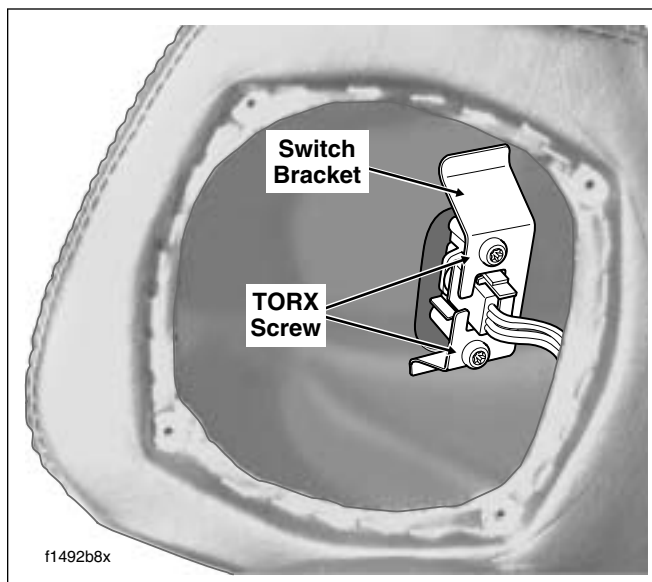

Figure 8-146. Remove Passenger Switch Assembly (Right Side Speaker Box Shown)
8. Remove two T25 TORX screws to release switch bracket from inside of speaker box. Remove bracket using slot to free switch wires. See Figure 8-146.